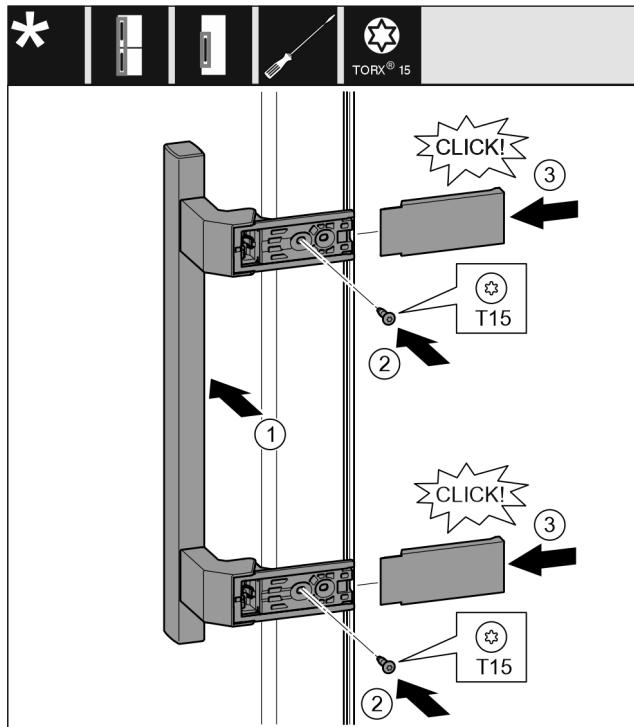

Fig. 38
- ▶ Position the handle on the opposite side. Fig. 38 (1)
- ▶ Tighten the screws using the T15 screwdriver. Fig. 38 (2)
- ▶ Position the covers on the side and push them on. Fig. 38 (3)